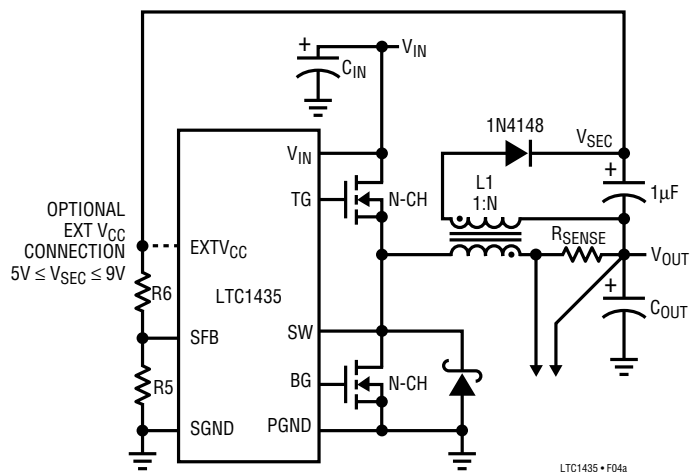
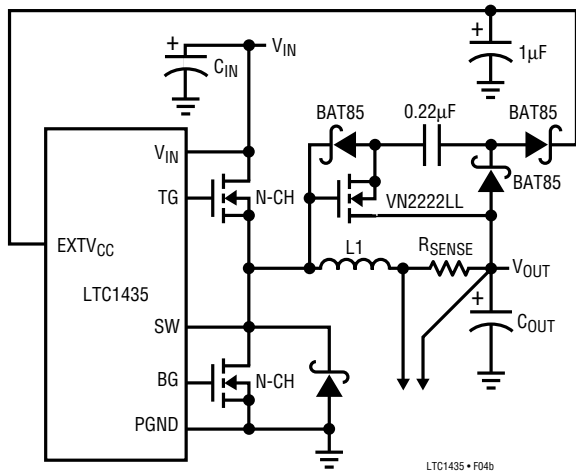

Figure 4a. Secondary Output Loop and EXT_V_{CC} Connection
Figure 4b. Capacitive Charge Pump for EXTV_{CC}
3. EXT_V_{CC} connected to an output-derived boost network. For 3.3V and other low voltage regulators, efficiency gains can still be realized by connecting EXT_V_{CC} to an output-derived voltage which has been boosted to greater than 4.8V. This can be done with either the inductive boost winding as shown in Figure 4a or the capacitive charge pump shown in Figure 4b. The charge pump has the advantage of simple magnetics.
The secondary output voltage is set by the turns ratio of the transformer in conjunction with a pair of external resistors returned to the SFB pin as shown in Figure 4a. The secondary regulated voltage, V_{SEC} , in Figure 4a is given by: